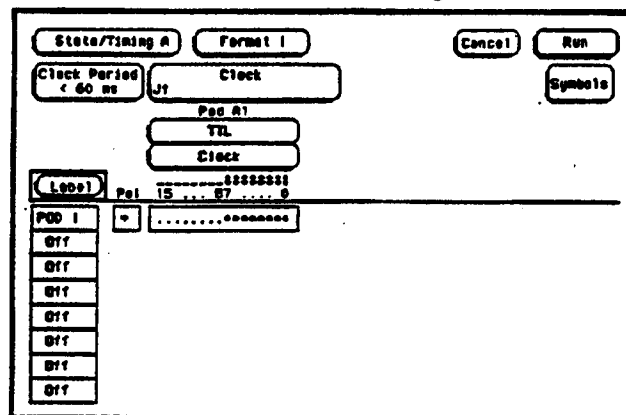

Figure 3-13. Format Screen
- Assign appropriate clock, a rising edge, a clock period < 60 ns, and bits 0 through 7 of the pod under test to a label in the Format screen as shown in figure 3-13.
- Assign appropriate clock, a falling edge, clock period < 60 ns, and bits 0 through 7 of the pod under test to a label in the Format screen. See figure 3-13.